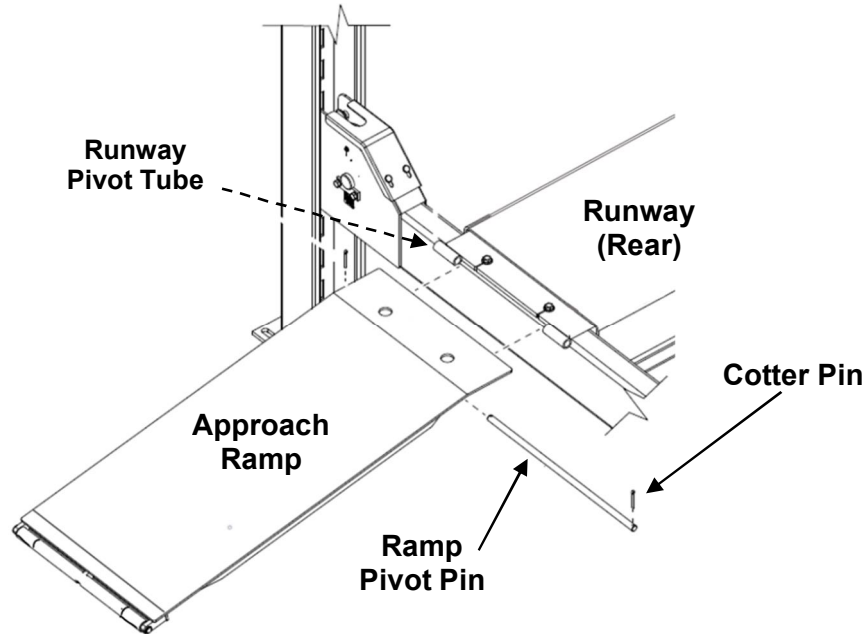

Fig. 31
- 1) To install the Approach Ramps, it will be best to have the runways raised about 3 to 4 feet. Attach Ramps to the rear of each Runway using the Ramp Pivot Pin & Cotter Pins, shown in Fig. 31. **NOTE: Ensure Cotter Pins are positioned to the outside of the Runway Pivot Tubes.**